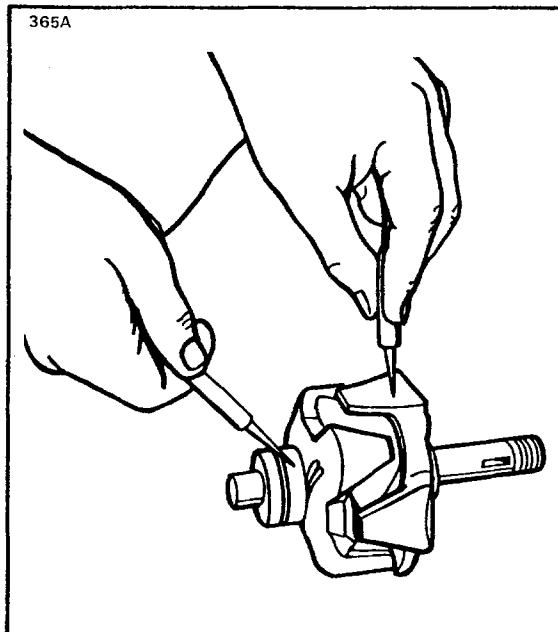
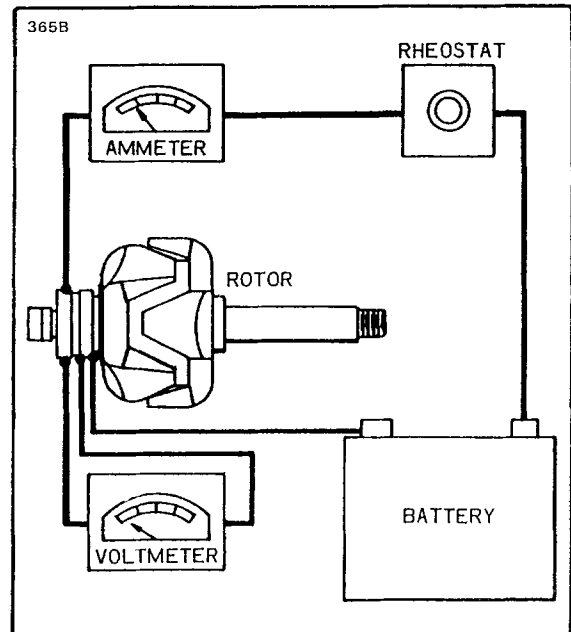

Figure 11-76. Testing Rotor for Ground
Figure 11-77. Testing Rotor for Shorts
a. Rotor: The rotor should be tested for grounded or shorted windings. The ground test can be made with test probes, connected in series with a 110 volt test lamp, an ohmmeter or any type of continuity tester. (Refer to Figure 11-76.) There must not be any continuity between the slip rings and the rotor shaft or poles. To test for shorted turns in the rotor winding, connect a voltmeter, ammeter and rheostat as shown in Figure 11-77, or use an ohmmeter. Rotor current draw and resistance are listed in the Alternator Service Test Specifications paragraph. Excessive current draw or a low ohmmeter reading indicates shorted windings. No current draw or an infinite ohmmeter reading would indicate an open winding.